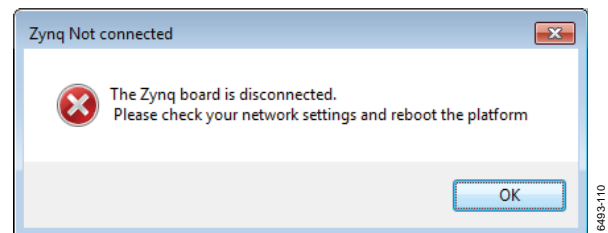

Figure 33. **Zynq Not connected** Window
2. Click **OK** in the **Zynq Not connected** error box (see Figure 33).